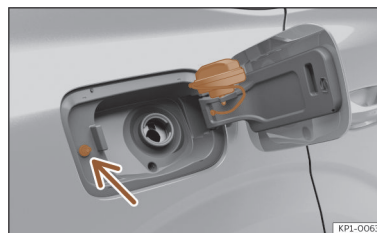

Fig. 202 Fuel tank flap with tank cap attached.
• Place it in the space on the hinge of the open flap >>> **Fig. 202.**
Avoid touching the fuel tank flap lock button >>> **Fig. 202** (arrow). The system will interpret that you have finished and cannot continue refuelling. Press the  button on the driver's door again to continue.